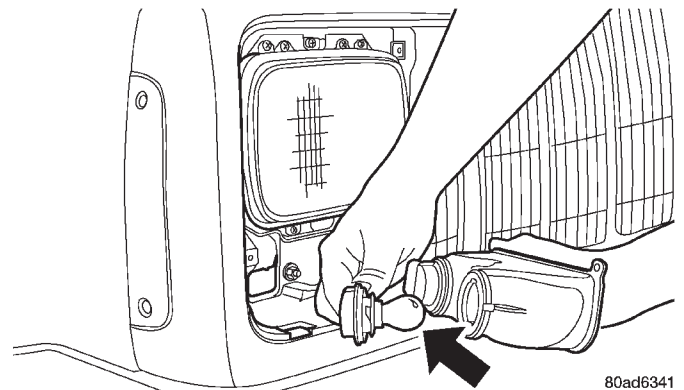

Fig. 7 Front Turn Signal Bulb
4. Twist the socket from the back of the turn signal housing and then pull from the housing (Fig. 7).